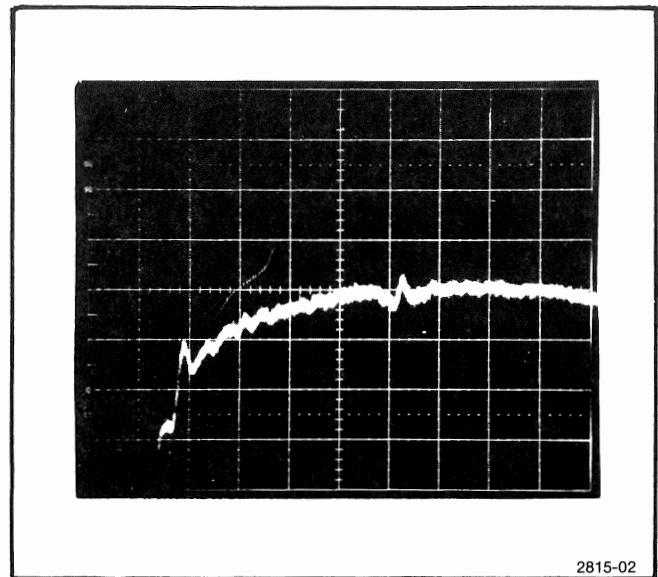

Fig. 5-1. Typical response curve of sampling system with the TD Pulser. Reference curve for the Low Edge Aberration Check (steps 13l and 13m).
A display similar to Fig. 5-1 should be obtained. Each major vertical division now represents 2% of the original 5-division signal. This display is the total sampling system response to a signal from the TD Pulser and is used as a reference for comparison purposes.
m. Use the marking pencil (for glazed surfaces) to carefully reproduce the displayed signal (average values) on the crt graticule. Ignore aberrations during first 200 ps. Not all sampling systems will display exactly as illustrated in Fig. 5-1. Once this reference graph has been drawn on the crt, do not erase it until all aberration checks and risetime measurements have been completed.